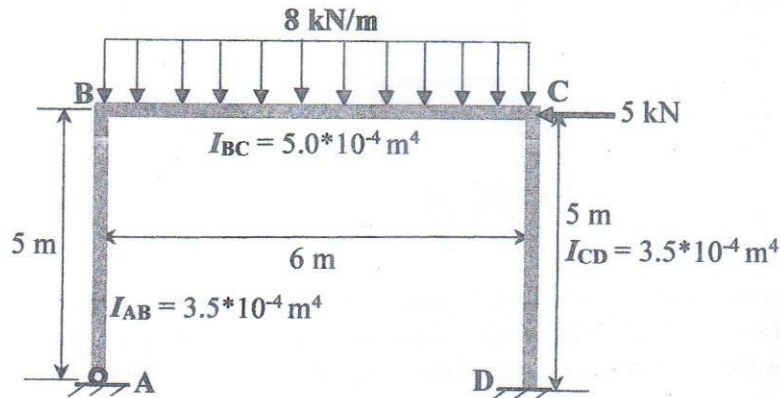

Fig. 1
1. Determine the reactions at the supports A and D shown in Fig.1 using flexibility method. Support A is roller, and D is fixed. Here, $E = 200 \text{ GPa}$. (25)